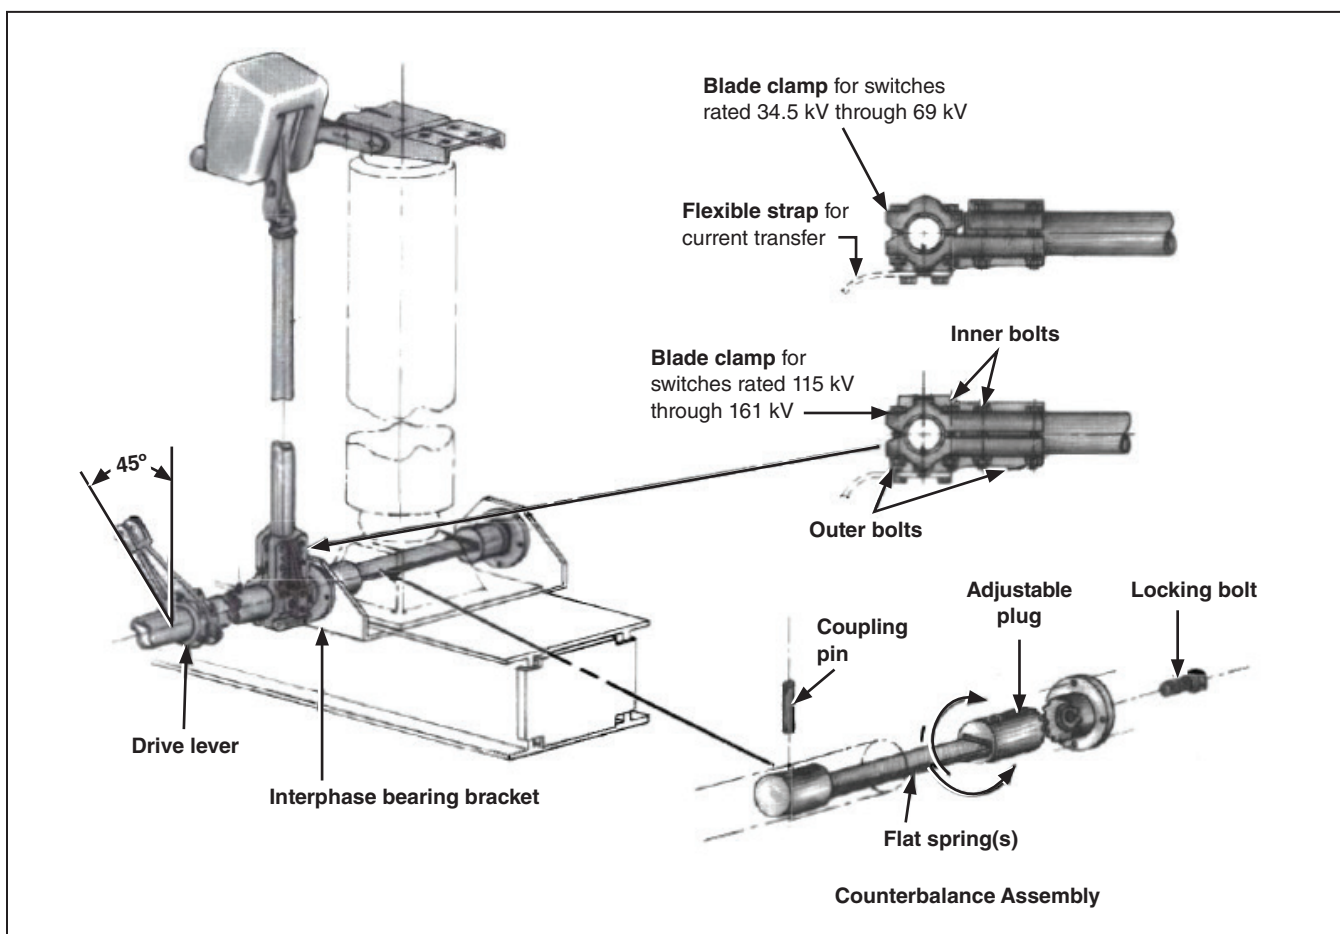
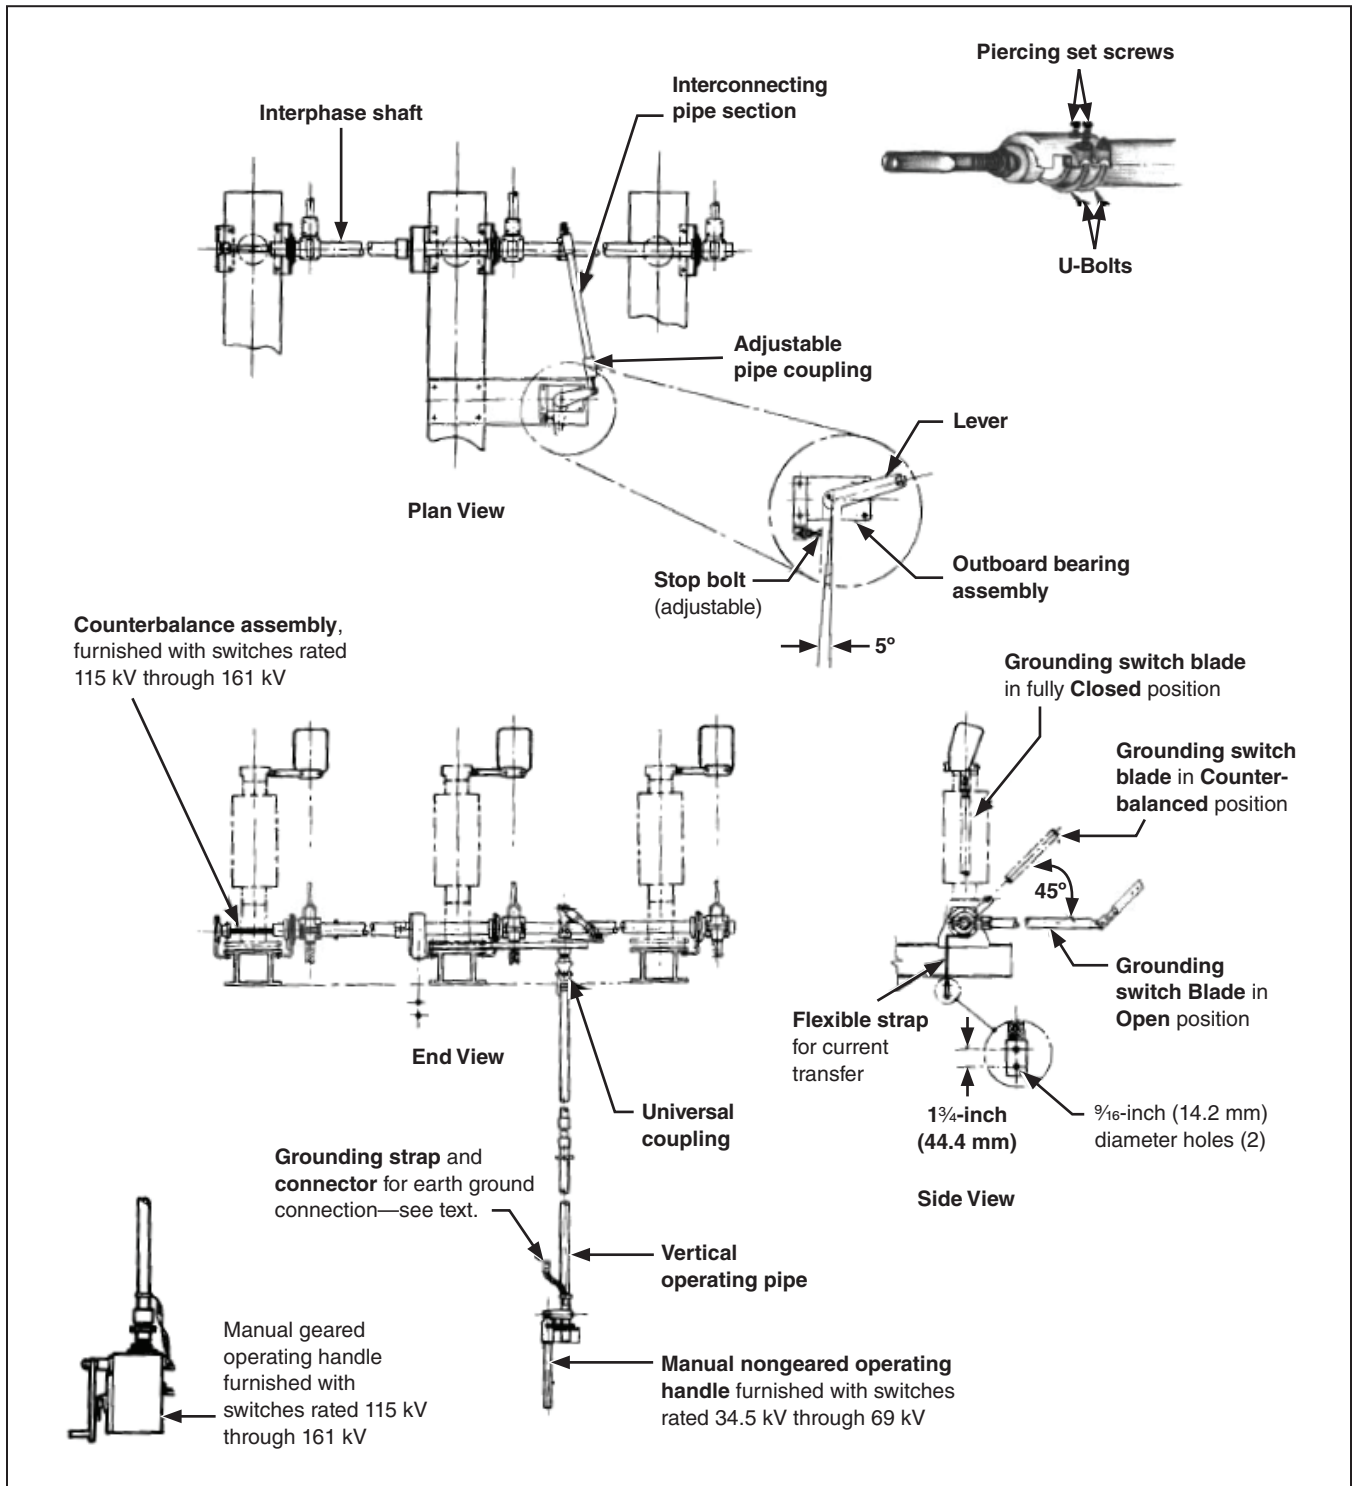

Figure 2. Pole-unit in Closed position.
Figure 3. Typical three-pole configuration.
Grounding switches rated 115 kV through 161 kV include a counterbalance assembly shipped with the miscellaneous power-train components. Attach the counterbalance assembly to the outboard pole-unit designated on the erection drawing. See Figure 2 on page 8 and Figure 3 on page 9. One of the interphase shaft sections is predrilled at one end. Install the shaft section positioned so the predrilled end is toward the pole-unit base where the counterbalance assembly is mounted. Slide the interphase shaft over the counterbalance assembly, align the hole in the shaft with the matching hole in the counterbalance assembly, and couple them with the pin provided.
- (d) Refer to Figure 2 and tighten the blade clamp bolts as follows:
**STEP 5.** Attach the drive lever to the interphase shaft in the position shown on the erection drawing so, in both the **Open** and **Closed** positions, it will be at an angle of 45 degrees from the vertical (to provide 90 degrees of travel). See Figure 2. Torque the drive-lever U-bolts to final tightness, but do not tighten the piercing set screws at this time.
- STEP 6.** Mount the outboard bearing assembly in the position shown on the erection drawing. See Figure 3 on page 9.
Adjust the stop on the outboard bearing assembly to allow the bearing lever to travel approximately 5 degrees over center to provide a positive-toggle condition when the grounding switch blade is fully **Closed**. See Figure 3 on page 9.
Now turn the take-up nuts of the adjustable pipe couplings to remove all play in the interconnecting linkage. Then, tighten the nuts to lock the couplings in position. See Figure 3 on page 9. Make sure the grounding switch blade-contact assembly is driven firmly against the jaw-contact stop roller.
- STEP 1.** Mount the outboard bearing assembly in the position shown on the erection drawing. See Figure 3 on page 9.
- Refer to Figure 2 on page 8 and tighten the blade clamp bolts equally to final tightness so the clamp pulls down evenly. Then, tighten the piercing set screws, piercing the pipe, and continue turning until a firm resistance is felt.
In the unlikely event readjustment is required, close the blades to reduce the spring load. Mark the position of the mating teeth. See Figure 2 on page 8. Then, loosen the locking bolt at the outboard end of the counterbalance assembly. Rotate the adjustable plug in the blade closing direction to increase the spring loading, or in the blade-opening direction to decrease the spring loading. Re-tighten the locking bolt at the end of the counterbalance assembly.